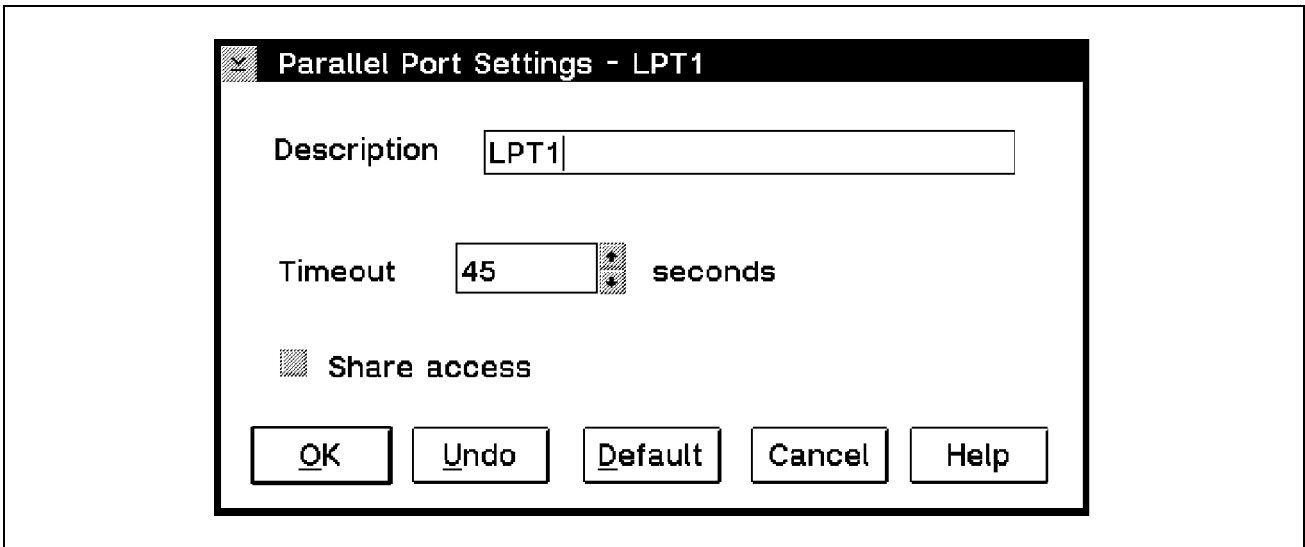

Figure 35. Parallel Port Settings Dialog
- Select **Settings**. The Parallel Port Settings Dialog appears as seen in Figure 35.